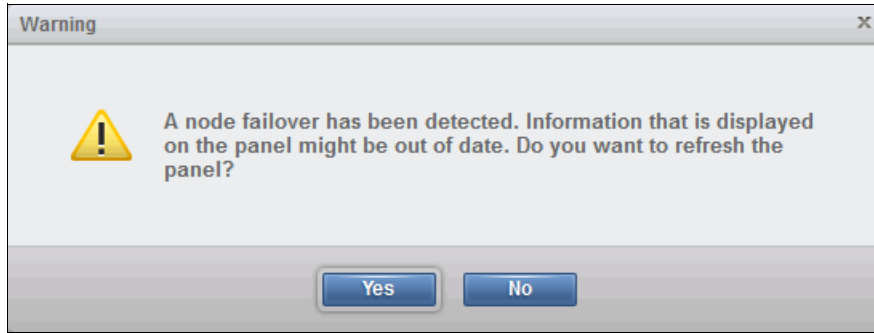

Figure 11-46 Configuration node failover warning
16. After you remove the configuration node from the cluster for the update, a warning displays, as shown in Figure 11-46. Click **Yes** to continue.